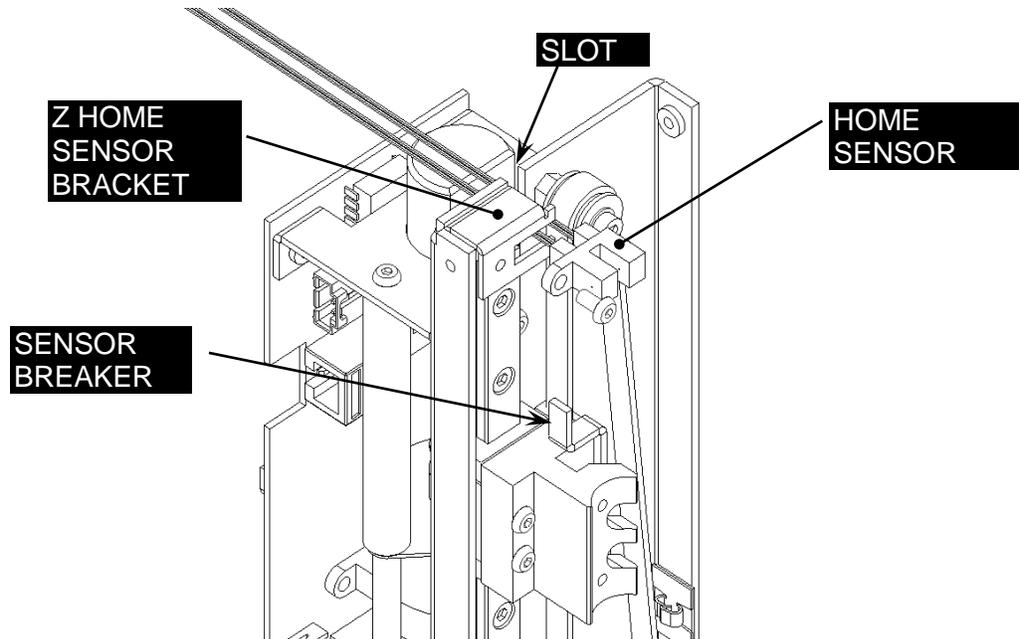

Figure 7-52: Z Home Sensor Breaker
4. Mount the Home Sensor to the Z Home Sensor Bracket using one M3x6 Button Head Screw as shown in Figure 7-52.